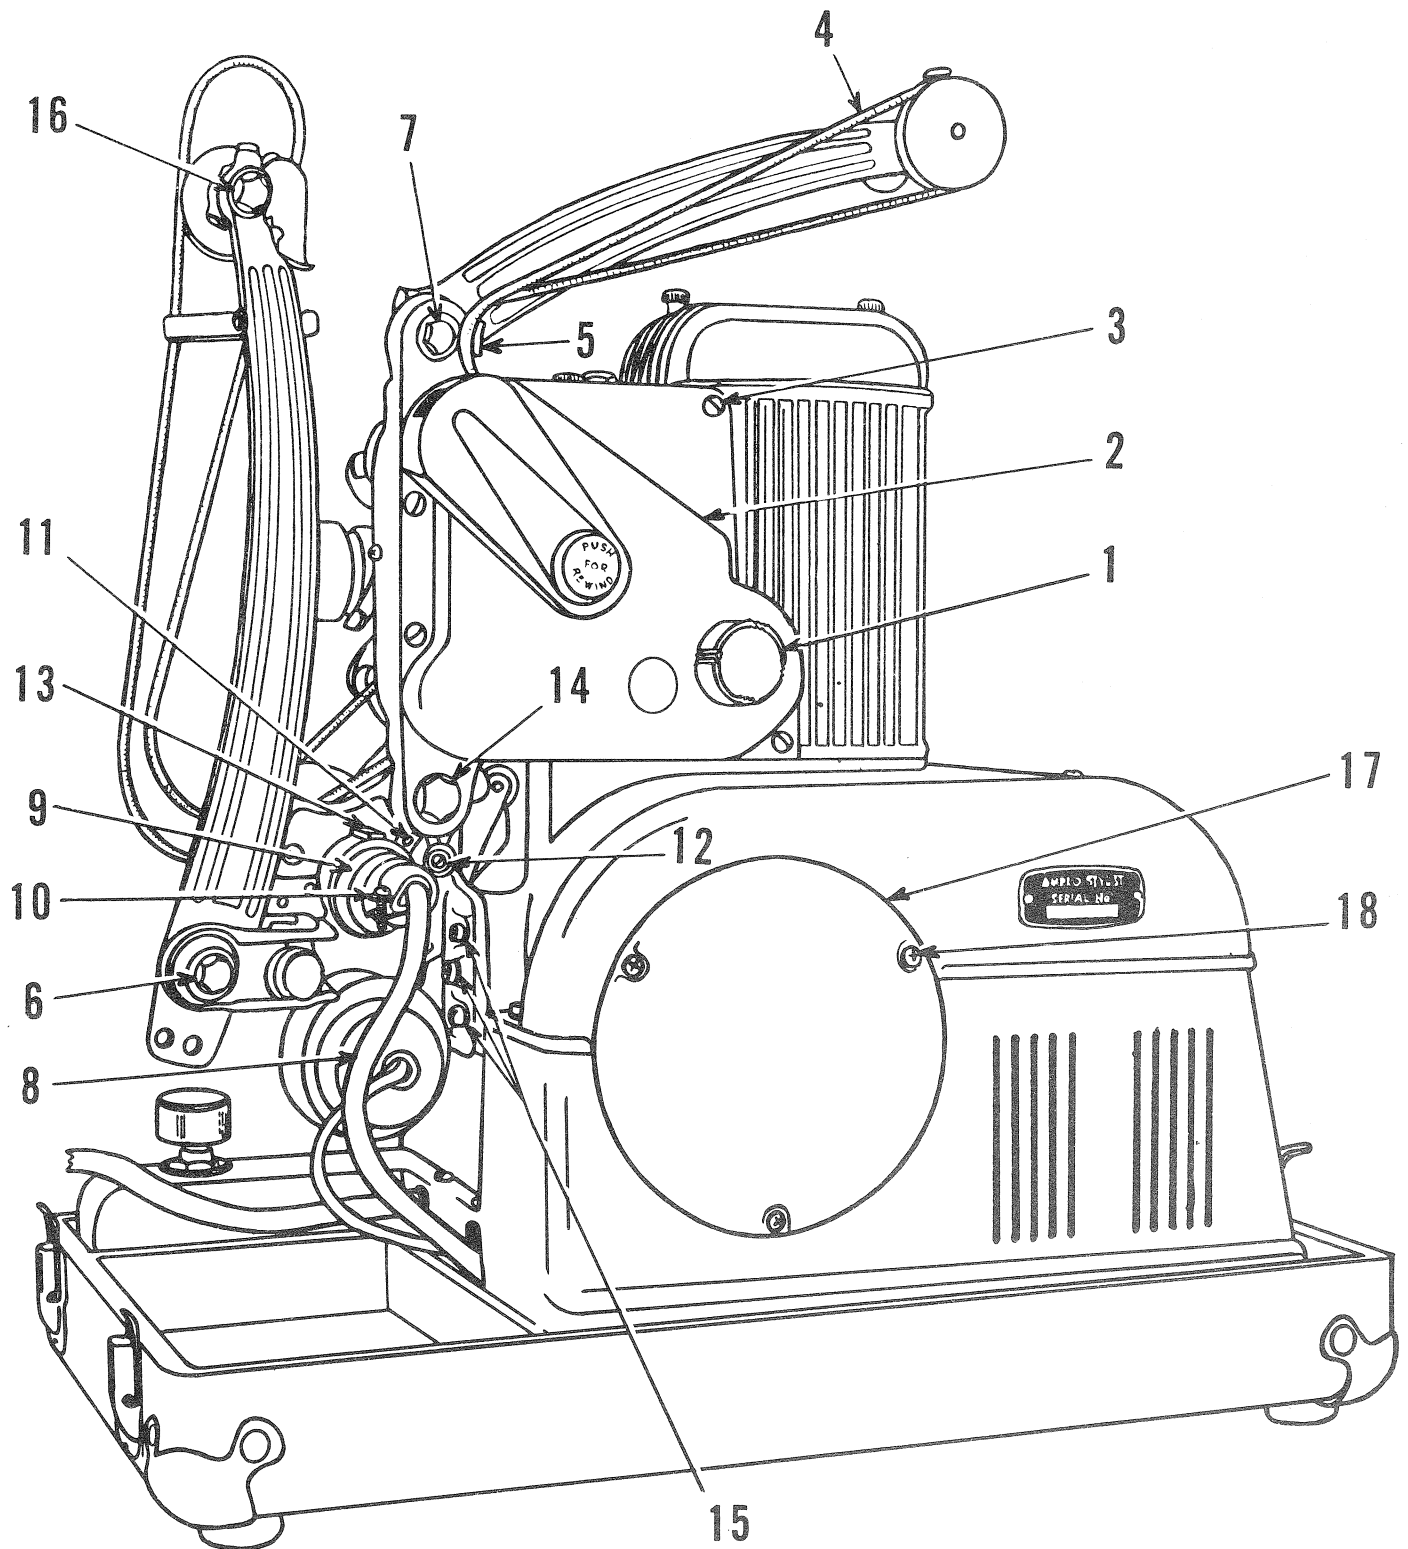

Figure 2. PROJECTOR (Left Side)
3. Sound Head Assembly (See Figure 2)
a. Removal - Remove take-up reel arm assembly as Par. 2-a of this section. Remove three screws securing exciter lamp socket assembly (Do not lose three socket spacers). Slide back photocell socket insulator (10). Unscrew ring nut (9) and remove photocell socket and photocell. Remove three fillister head screws (15) securing sound head to the base. Remove sound head mounting stud (14) and remove sound head.
4. Amplifier Assembly (See Figure 2)